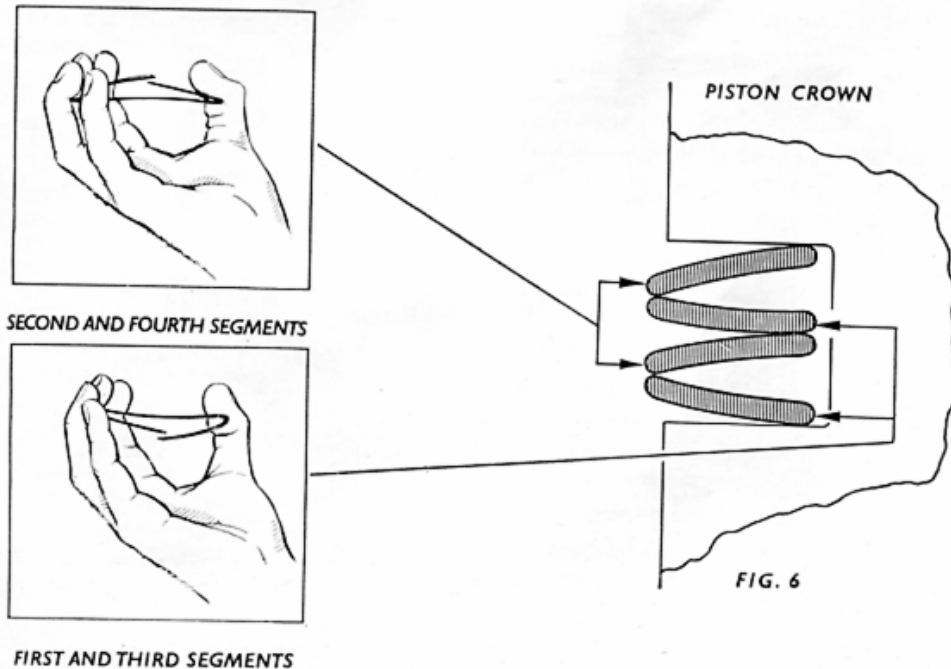

Fig. H.6.
1. Fit the first segment to the piston so that when held horizontally between the thumb and fingers and radially compressed the ring ends point downwards (see Fig. H.6). Place this ring on the bottom face of the fourth ring groove with the gap over the gudgeon pin bore.